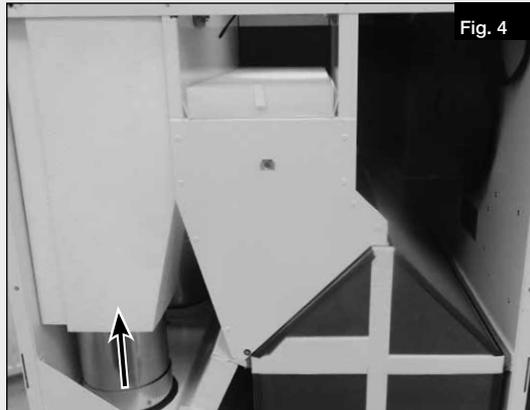

Fig. 4
1. Slide connecting pipe towards the top of the unit (see Fig. 4).